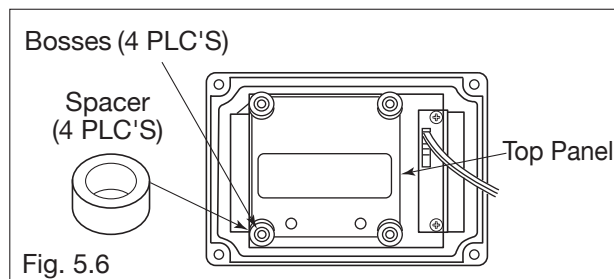
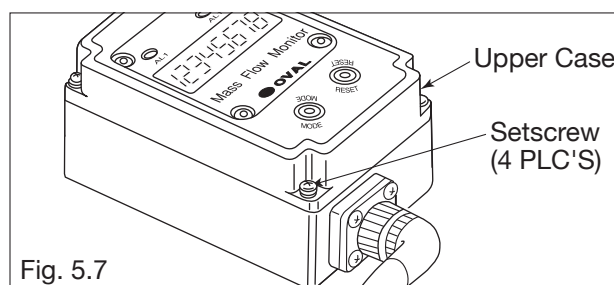

Fig. 5.6
Fig. 5.7
- ④ Take out the four spacers (white rings) attached to the boss that fix the display board. (Fig.5.6)
- ⑤ Remove the top panel, turn it around and set it in the upper case.
- ⑥ Put the removed spacer on each bosses.
- ⑦ Set the display board in the upper case so that it faces the top panel, and fix it with four set screws ( $2.6 \times 8$ : tightening torque  $45 \text{ cN} \cdot \text{m}$ ). (Align the LED holes on the top panel with the LEDs on the display board)
- ⑧ Make sure that the O-ring of the lower case is fitted in the groove, and tighten the upper case evenly with four screws ( $3 \times 14$ : tightening torque  $60 \text{ cN} \cdot \text{m}$ ), being careful not to pinch the cable. (Fig.5.7).